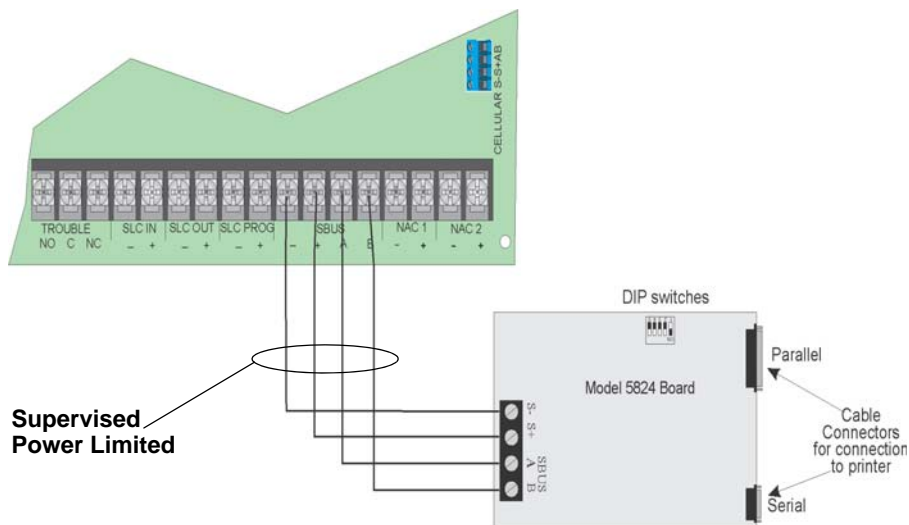

Figure 4-31 5824 Connection to the Panel
2. Connect the 5824 to the panel as shown in Figure 4-31.
5. Connect a printer to the 5824 as shown in Figure 4-31.